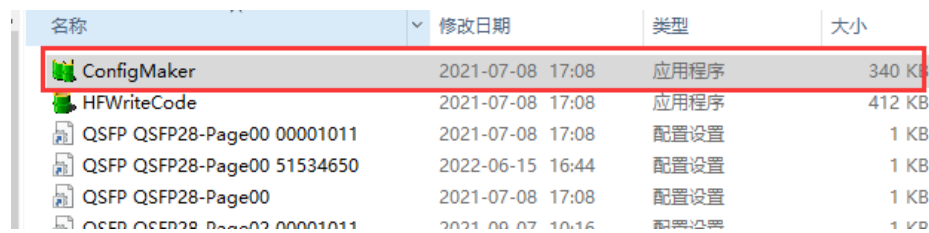

Figure 38
1. Click to open the "ConfigMaker" (as shown in Figure 38)